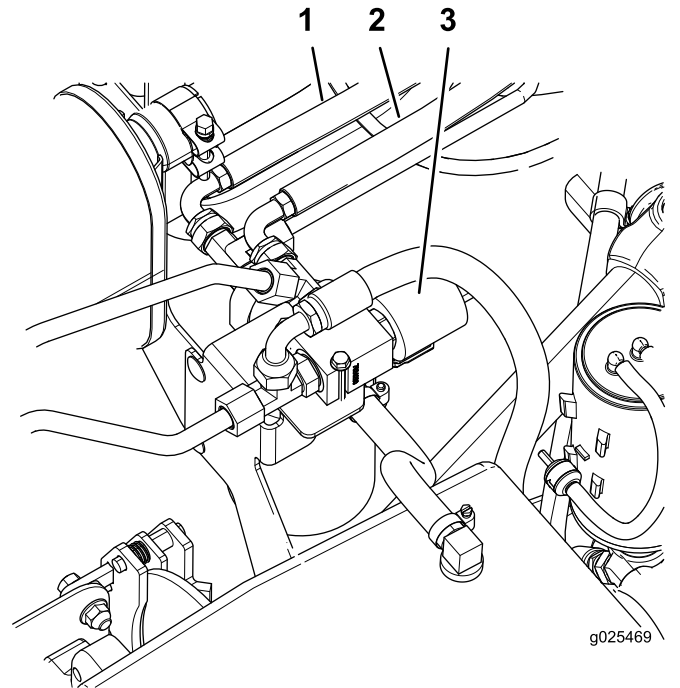

Figure 16
3. Install the long hose (86-1/2 inches) to the tee fitting on the manifold (Figure 16).
4. Install the long hose (80-1/2 inches) to the tee fitting on the filter housing (Figure 16).